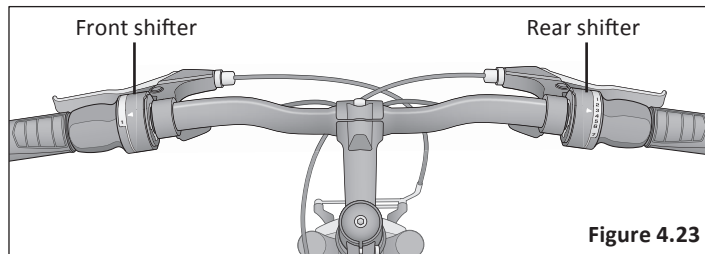

Figure 4.23
- 1 Begin by shifting the rear shifter to largest number indicated and place the chain on the smallest sprocket. **Figure 4.23**